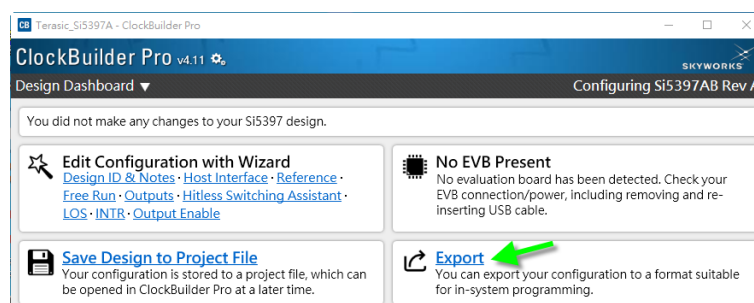

Figure 2-14 Click “Export” in CBPro
- As shown in **Figure 2-14**, click “Export” in ClockBuilder Pro to open Si5391 Export Dialog.
- Press FPGA User Button[0], to start Si5391 reconfigure process. CIPRI_REFCLK_p shows 148,500,000 Hz as shown in Figure 2-14.